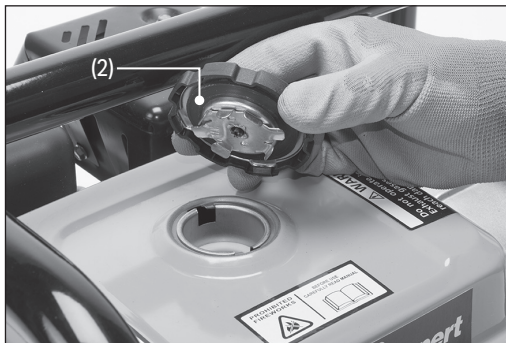

Fig. 7
1. Remove the petrol cap (2) (Fig. 7).